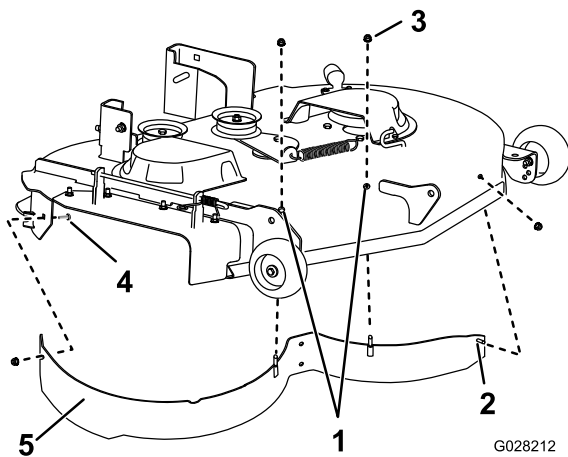

Figure 2
9. Remove the 2 plug bolts and 2 nuts from the mower deck in the locations shown Figure 2.
10. Install the baffle assembly to the right-hand side of the mower deck with a carriage bolt (5/16 x 3/4 inch) and 4 flange nuts (5/16 inch) as shown in Figure 2.